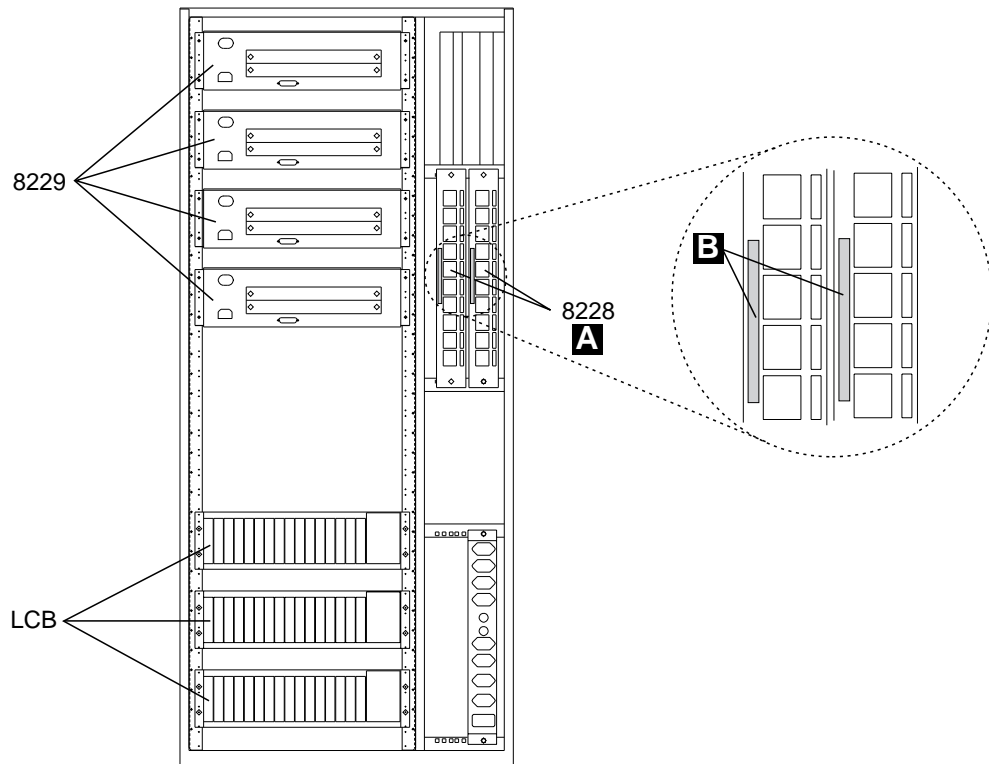

Figure 2-21. Installing Four Ethernet Bridge in the Controller Expansion-B (Rear View)
- h. ____ Refer to Figure 2-21, in this example two 8228s and four Ethernet bridges are installed (maximum configuration). Install vertically a 8228 **A** on the rear side of the controller expansion-B using two screws (PN 1621232) and two captive nuts (PN 58G5766). Using label **B** (PN 782964), identify the 8228s as Ethernet Bridge Access Unit-A and Ethernet Bridge Access Unit-B.